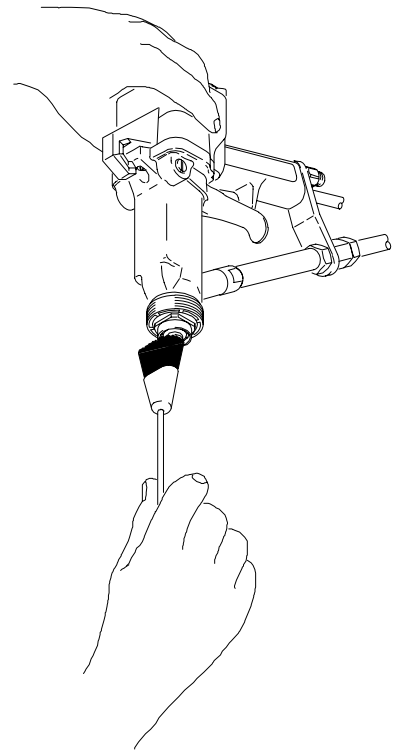

Fig. 12
- Do not use any cleaning method which may allow solvent into the gun air passages. Point the gun down while cleaning to prevent fluid from running into the air passages. See Fig. 12.
4. With the front of the gun pointed down, clean the fluid nozzle and the front of the gun with the soft bristle brush and cleaning fluid. See Fig. 12.